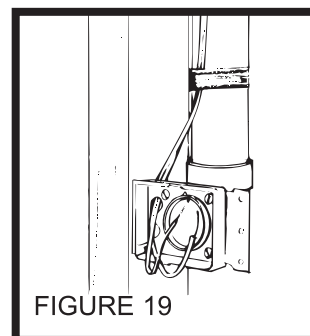

FIGURE 19
14. Refer to Figure 19. Tape wire to tubing to hold in place and insert through hole in inlet bracket.